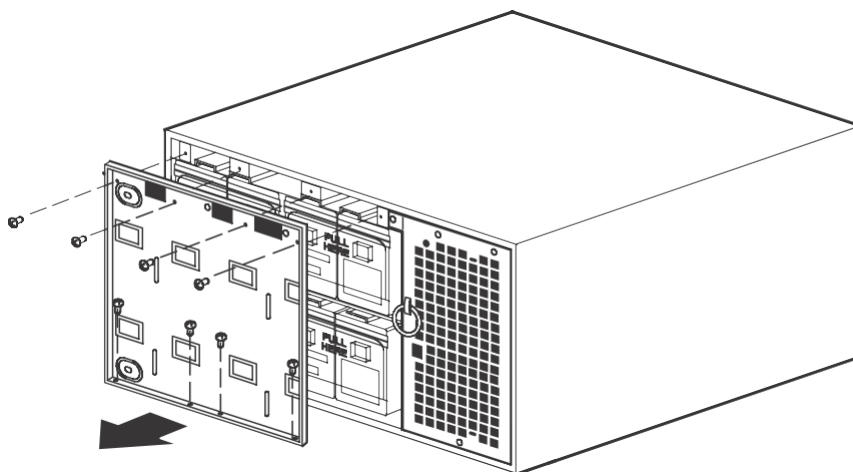

Figure 84. Removing the UPS Battery Cover Plate
3. Remove the eight screws on the battery cover plate and retain. Remove the plate. See Figure 84.
- 10 Remove the eight screws on the battery cover plate and retain. Remove the plate. See a similar removal in Figure 84 on page 125.